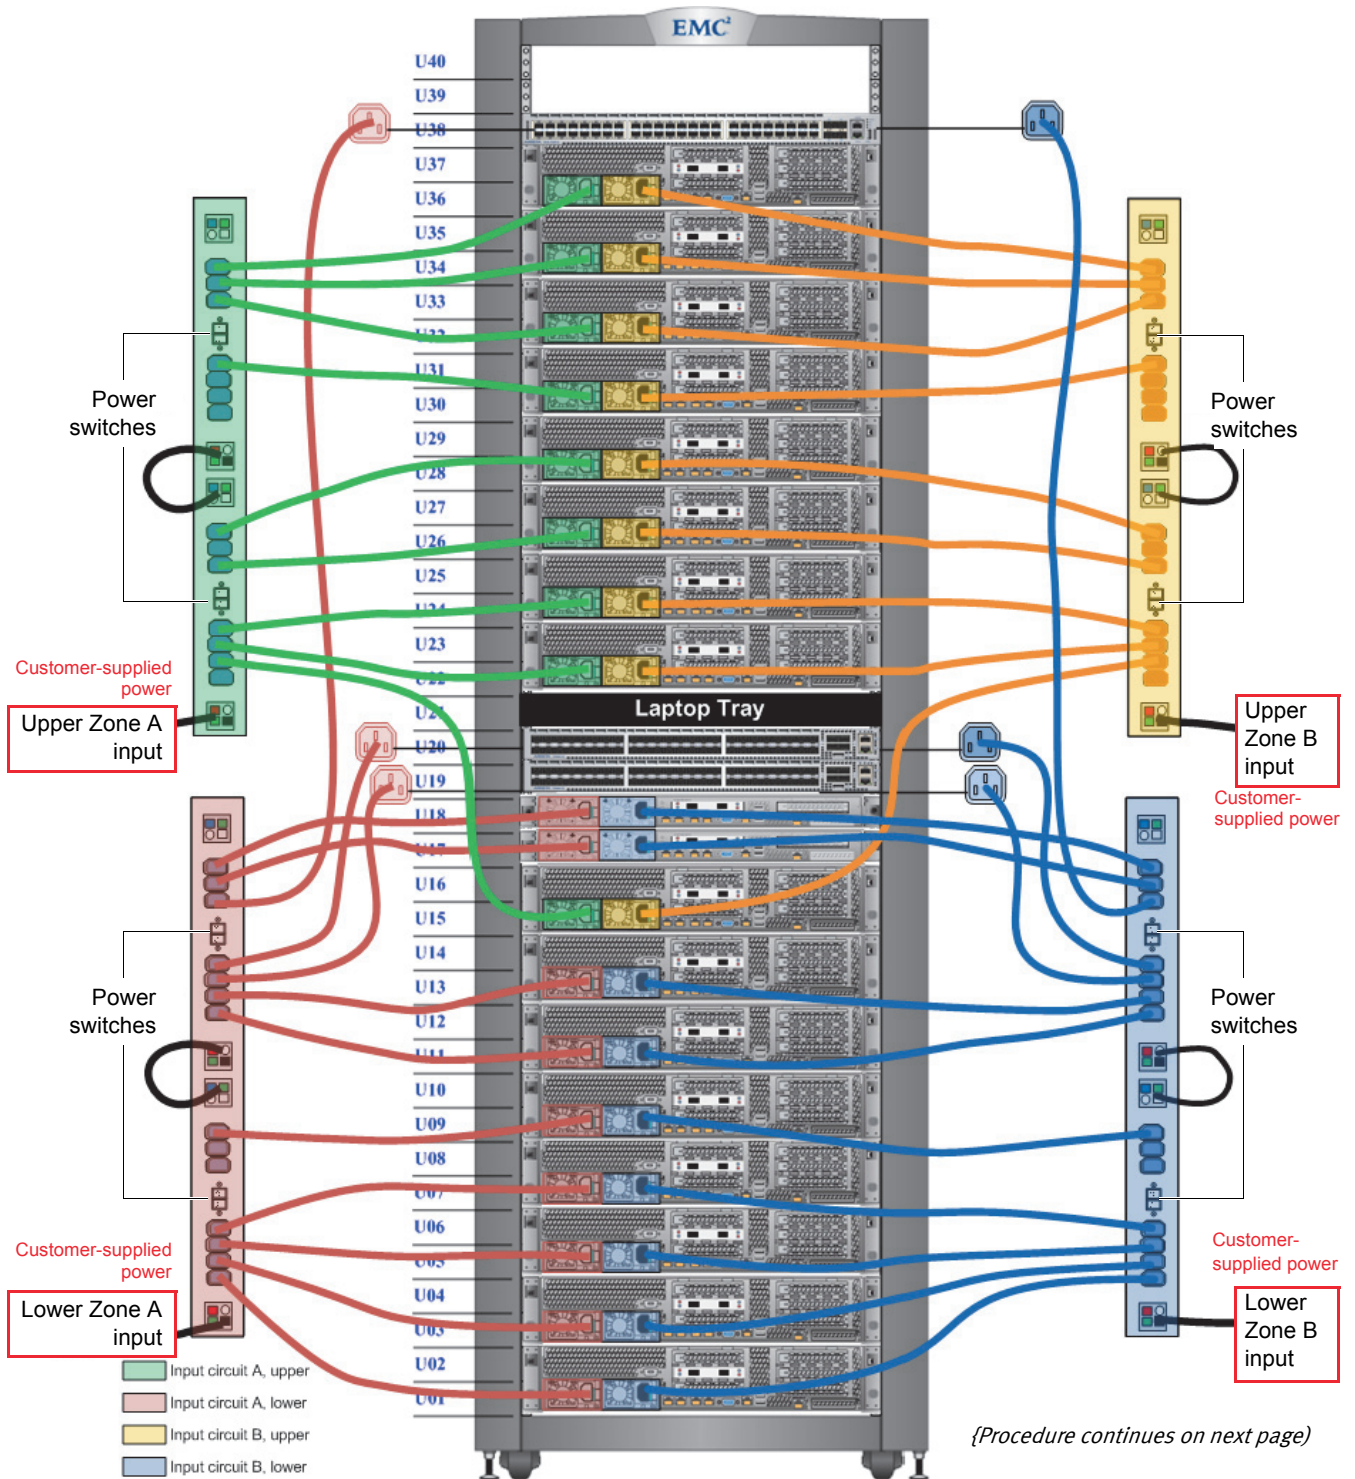

Figure 63 Rack power switch locations
1. Starting from the rear of the System rack (Rack 1), locate the power switches in the upper and lower Power Zones A and B (see Figure 63).